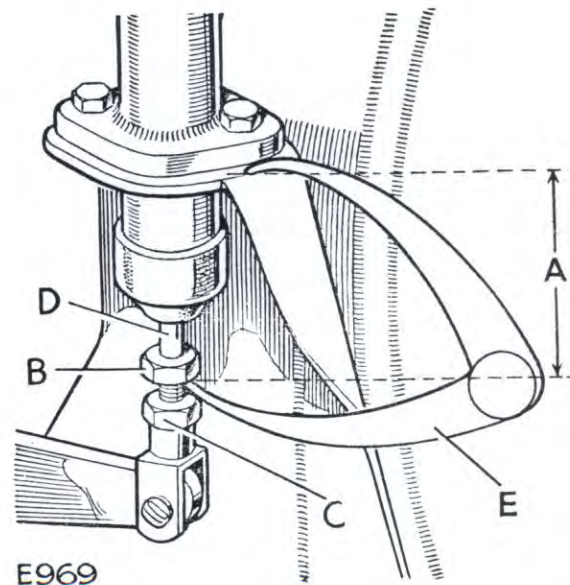

Fig. 3. Setting hydrostatic clutch linkage, Method A
- (b) Adjust the push rod if necessary by slackening off lock nut 'C', and rotating push rod with the fingers to give dimension 'A' as shown as Fig. 3. Do not adjust nut 'B' to obtain this figure. Nut 'B' must always be tightened to the end of the push rod thread.
Early Land-Rover Series II and IIA models can be modified by fitting the new parts detailed above, discarding the return spring for operating lever and adjusting the push rod as shown at Fig. 3.